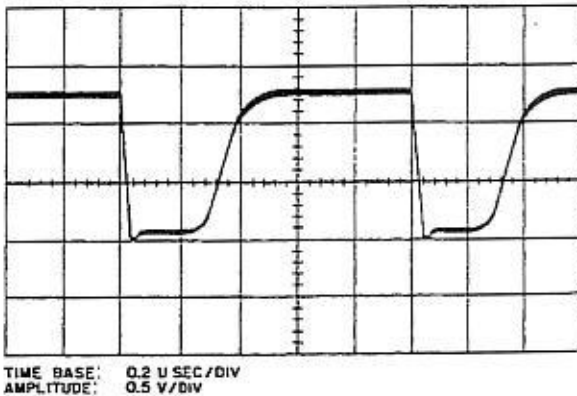

Figure 6.8A – Q1, Base Waveform
b. Reconnect oscilloscope to base of Q1 (left end of R72) the 1 MHz waveform should resemble the one shown in figure 6.8A. Reconnect oscillo-